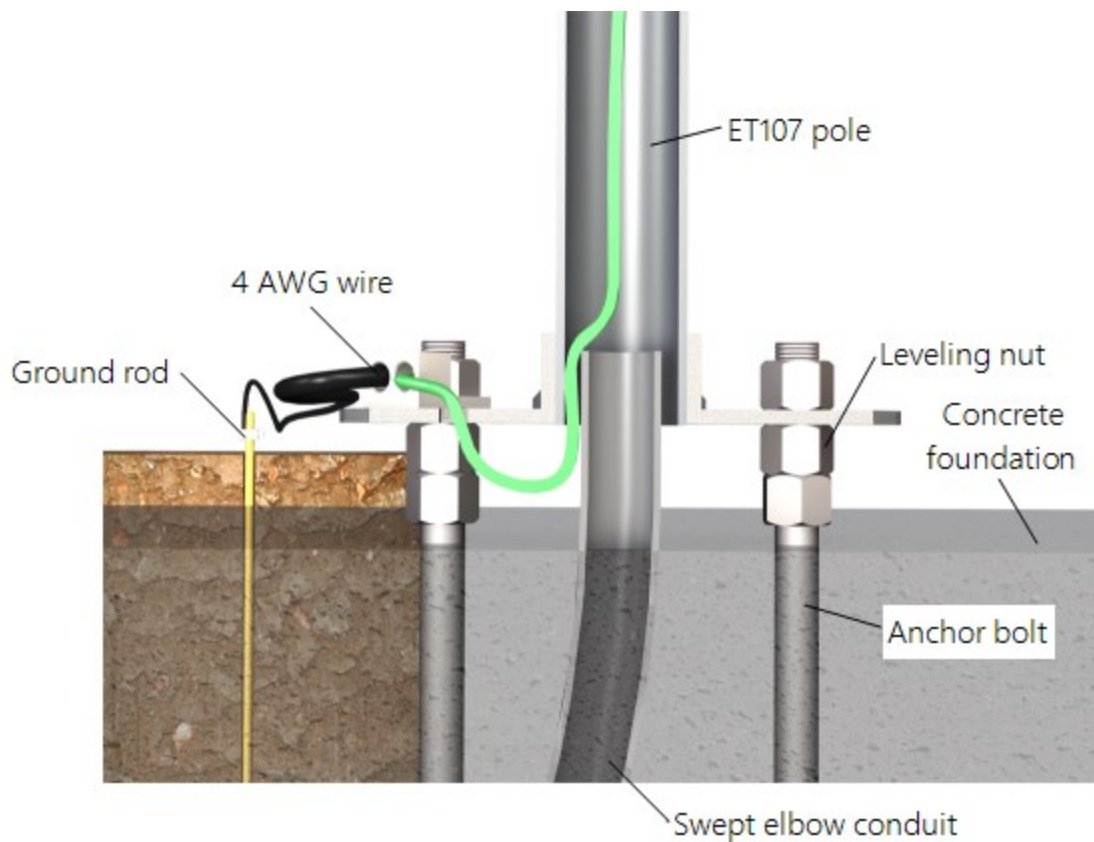
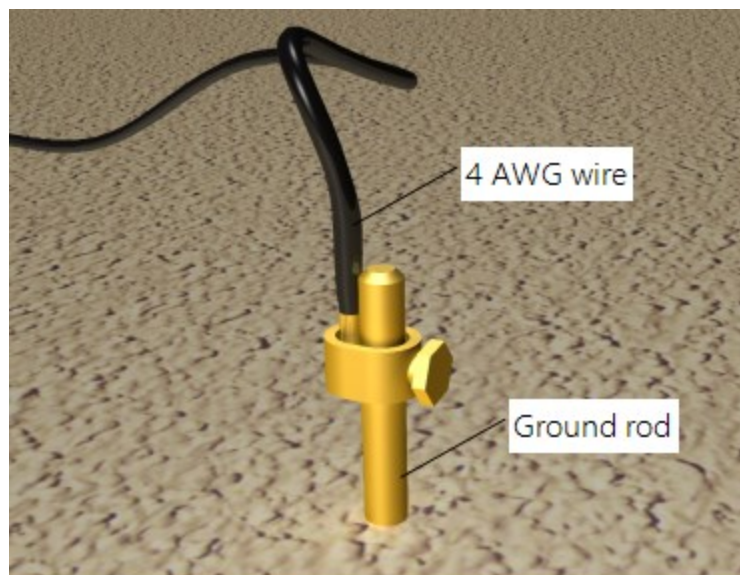

FIGURE 6-3. Transparent view shows raising and grounding the T107 pole
FIGURE 6-4. Close-up of ground rod and 4 AWG cable
Use the following procedure to attach the pole to the base (FIGURE 6-3 (p. 15)).
Use the following procedure to ground the pole (FIGURE 6-3 (p. 15) and FIGURE 6-4 (p. 17)).
6. Tighten the set screw (FIGURE 6-4 (p. 17)).
7. Loosen the ground rod clamp. Insert the 4 AWG wire. Tighten the clamp (FIGURE 6-4 (p. 17)).